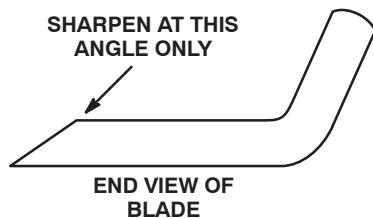

Figure 33
3. Examine the cutting edges of all of the blades. Sharpen the cutting edges if they are dull or nicked. Sharpen only the top of the cutting edge and maintain the original cutting angle to make sure of sharpness (Fig. 33). The blade will remain balanced if the same amount of metal is removed from both cutting edges.